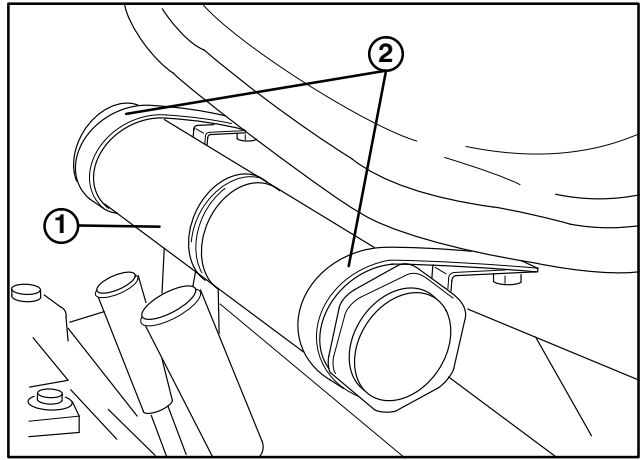

Figure 8
1. Remove manual tube and R-clamps secured to seat plate. Retain (2) mounting capscrews and flatwashers.
2. Loosely mount R-clamps to outer holes in right side of seat with (2) capscrews and flatwashers previously removed. (Fig. 8).
3. Install manual tube into R-clamps, insert manual into tube and thread cap into tube (Fig. 8). Tighten capscrews.